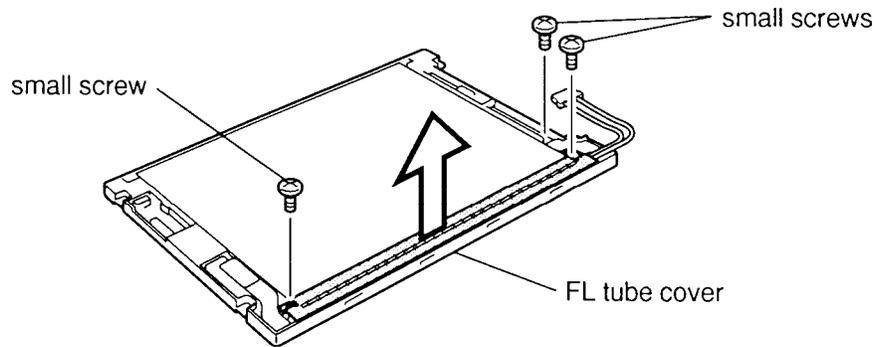

Figure 4-31 Removing the FL unit
To remove the T2150CDT's FL, follow the steps below and refer to figure 4-31.
3. Place the LCD module face down and remove **three small screws** (figure 4-31).
4. Lift the **FL tube** out of the frame (figure 4-31).
1. Replace the **FL tube** in the frame and seat the **FL tube cover**, then secure it with **three small screws** (figure 4-31.)